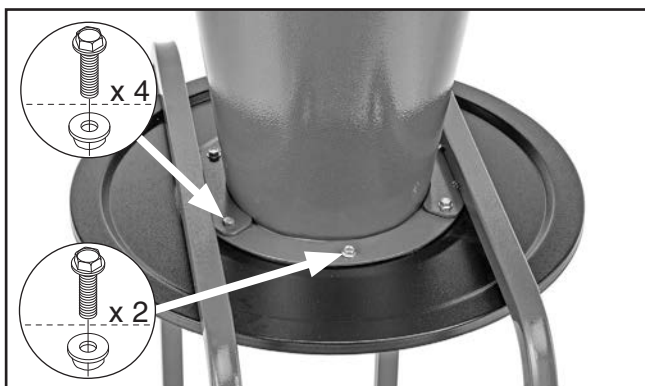

Figure 12. Funnel and drum lid attached to brackets.
13. Attach G0863 cyclone funnel and drum lid to funnel brackets (see **Figure 12**) with (4) 1/4"-20 x 3/4" flange bolts, included here, and (2) 1/4"-20 x 1/2" flange bolts and (6) 1/4"-20 flange nuts included with G0863 Grizzly Growler.